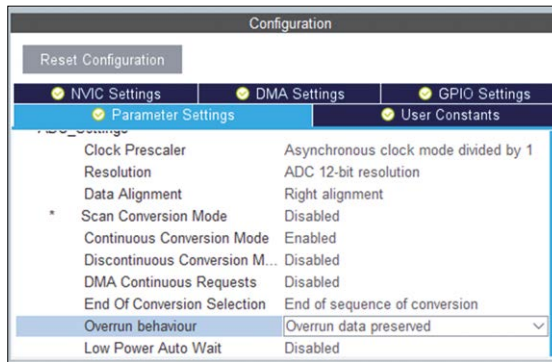

Figure 8.4: Parameter settings.
- Set **Overrun behaviour** to **Overrun data overwritten** (see Figure 8.4).